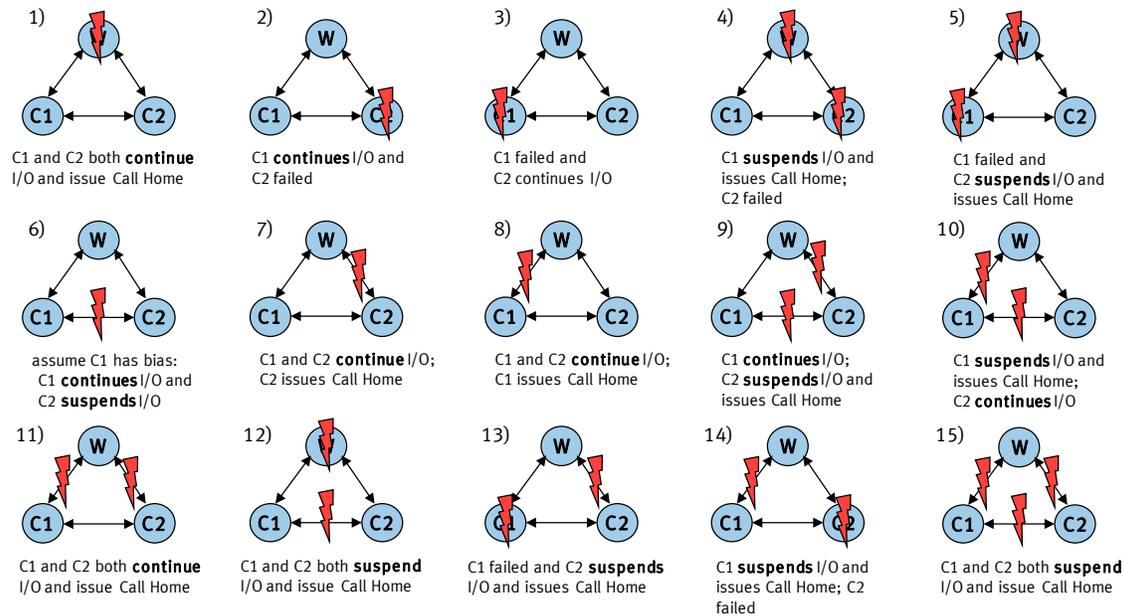

Figure 7. Failure states with the VPLEX Witness
- The VPLEX Witness allows a VPLEX system to provide continuous availability to data in the presence of total cluster failures and loss of the redundant communication links between clusters. Figure 7 shows how availability is improved with a VPLEX Witness beyond the increased availability of a VPLEX Metro with no Witness.